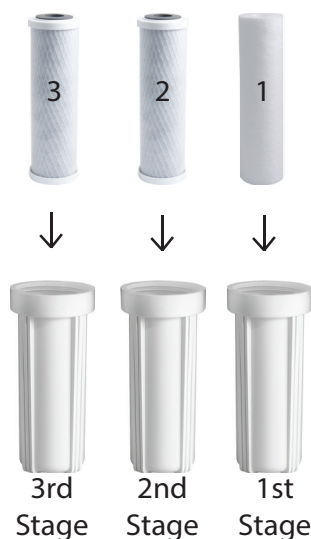

Fig. 1
1. **See Fig. 1** Stand the 3 housings upright. Make sure each housing has a rubber O-ring in its groove.
2. **Feed Water Adapter (1/2" to 3/8"):** See **Fig. 1**. This is a 1/4" tubing quick connect Feed Water Adapter. The Adapter goes inline onto your 1/2" or 3/8" cold water pipe.
3. **Recommend Connection For Flex Line Riser:** See **Fig. 2A.** & **Fig. 2E** Loosen nut and separate cold water riser tube from shut off valve. Gently bend riser tube so that the Feed Water Adapter (**Fig. 1**) fits onto the shut off valve. Connect the riser tube, feed water adapter, and shut off valve together and **tighten**.